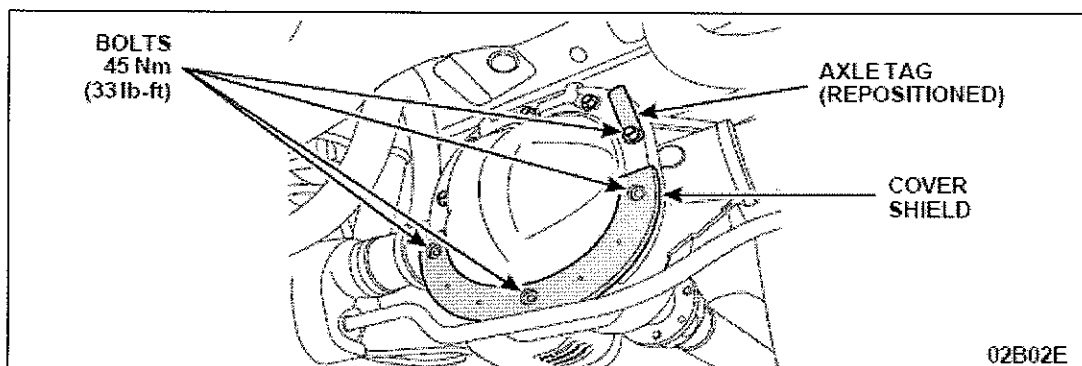

FIGURE 5
Reposition the axle and/or fluid identification tag as necessary. Hand-tighten the bolt(s) at this time. See Figure 5.
- Remove and discard the three (3) differential cover bolts located at the 4, 6 and 8 o'clock positions. Position the differential cover shield and press into place. The cover should fit snug over the existing bolts. Install the three (3) *new* bolts. Tighten all loosened or removed bolts to 45 Nm (33 lb-ft). See Figure 5. Be sure to also tighten the axle tag bolt(s) to specification.